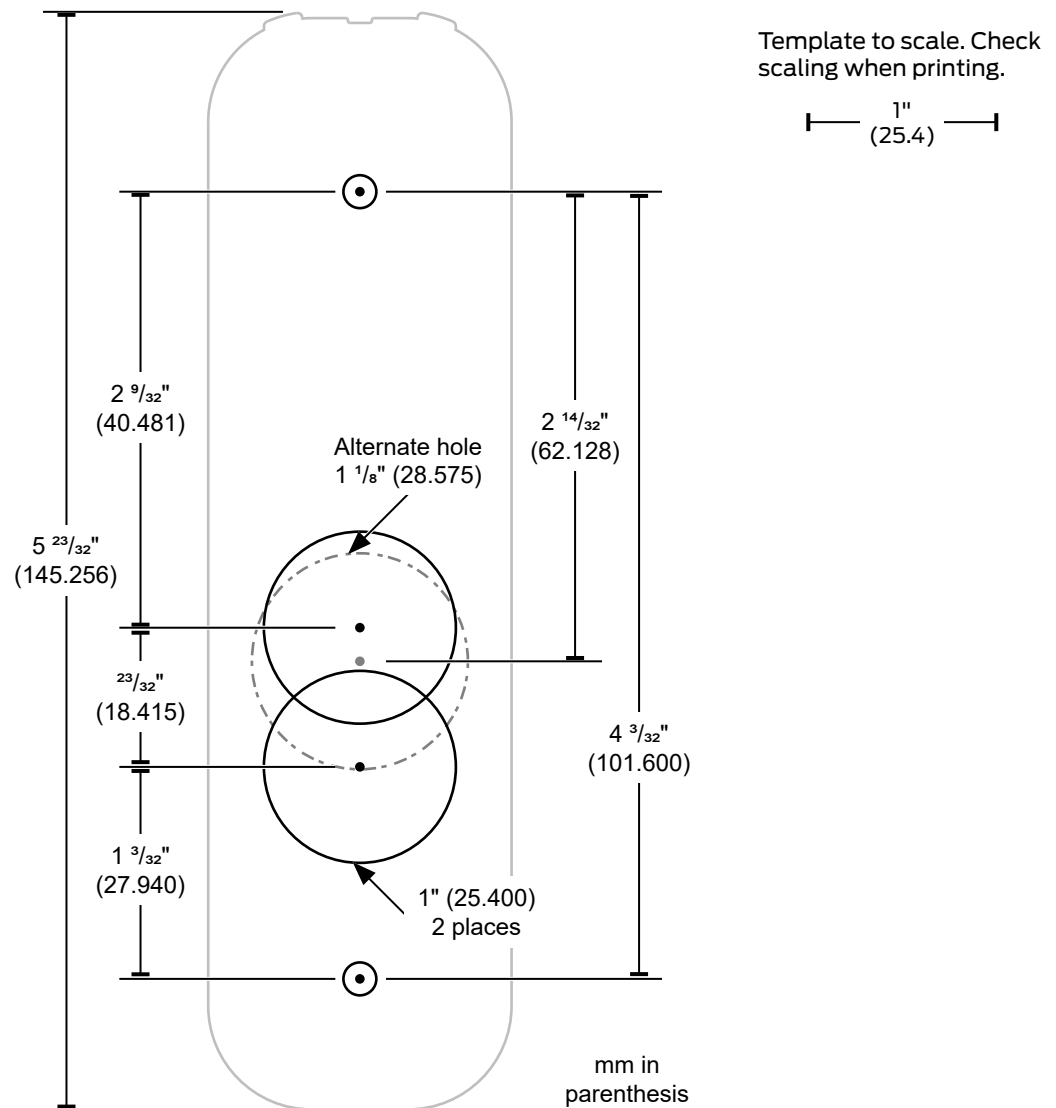
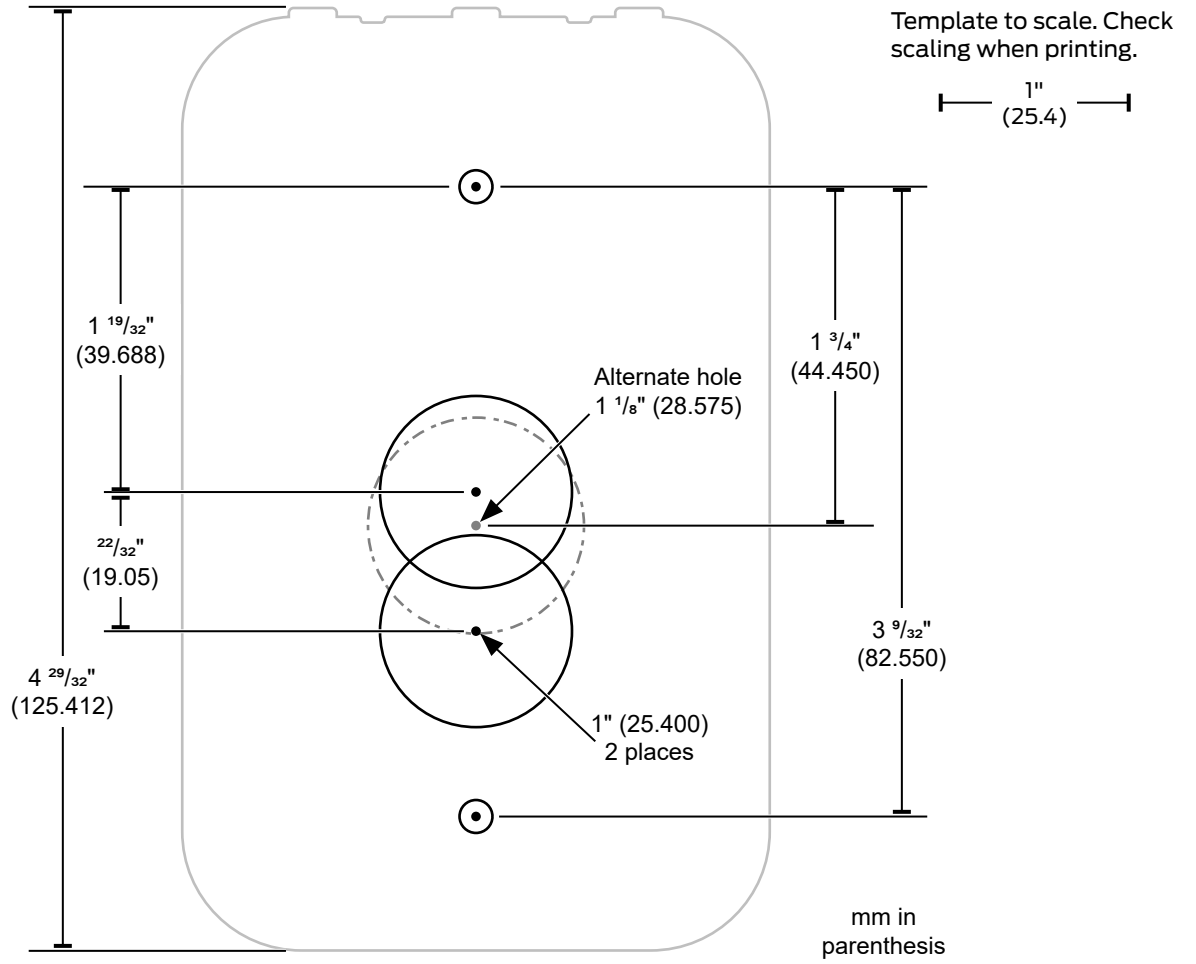

Figure 1.1: RC11 Mounting
Figure 1.2: RC15/RCK15 Mounting
4. The wall mounting templates are shown in **Figure 1.1: RC11 Mounting** and **Figure 1.2: RC15/RCK15 Mounting**.